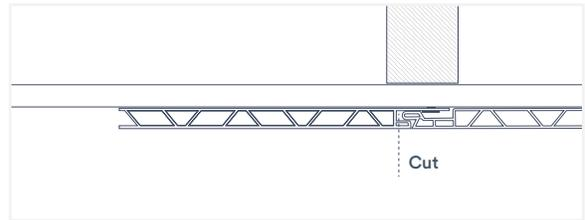

Fig. 40
4. On the groove side that remains, make another cut 3/8" away from the panel joint in the direction of the previous cut (Fig. 40) [next page]